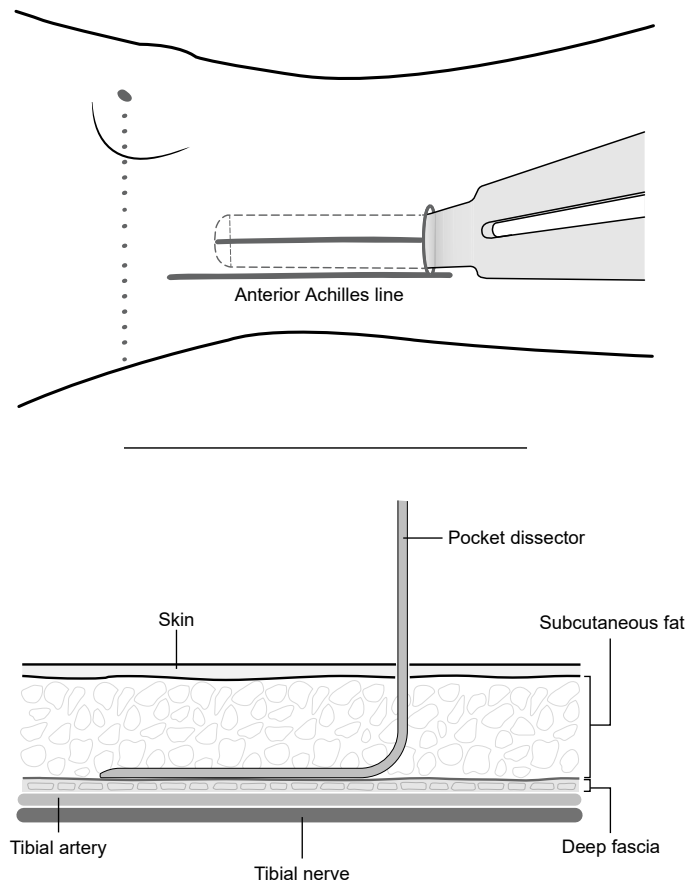

Figure 12. Inserting the pocket dissector to create the neurostimulator pocket
4. Continue advancing the blade until the blade is fully inserted, creating a pocket that is 5 cm in length (Figure 12).